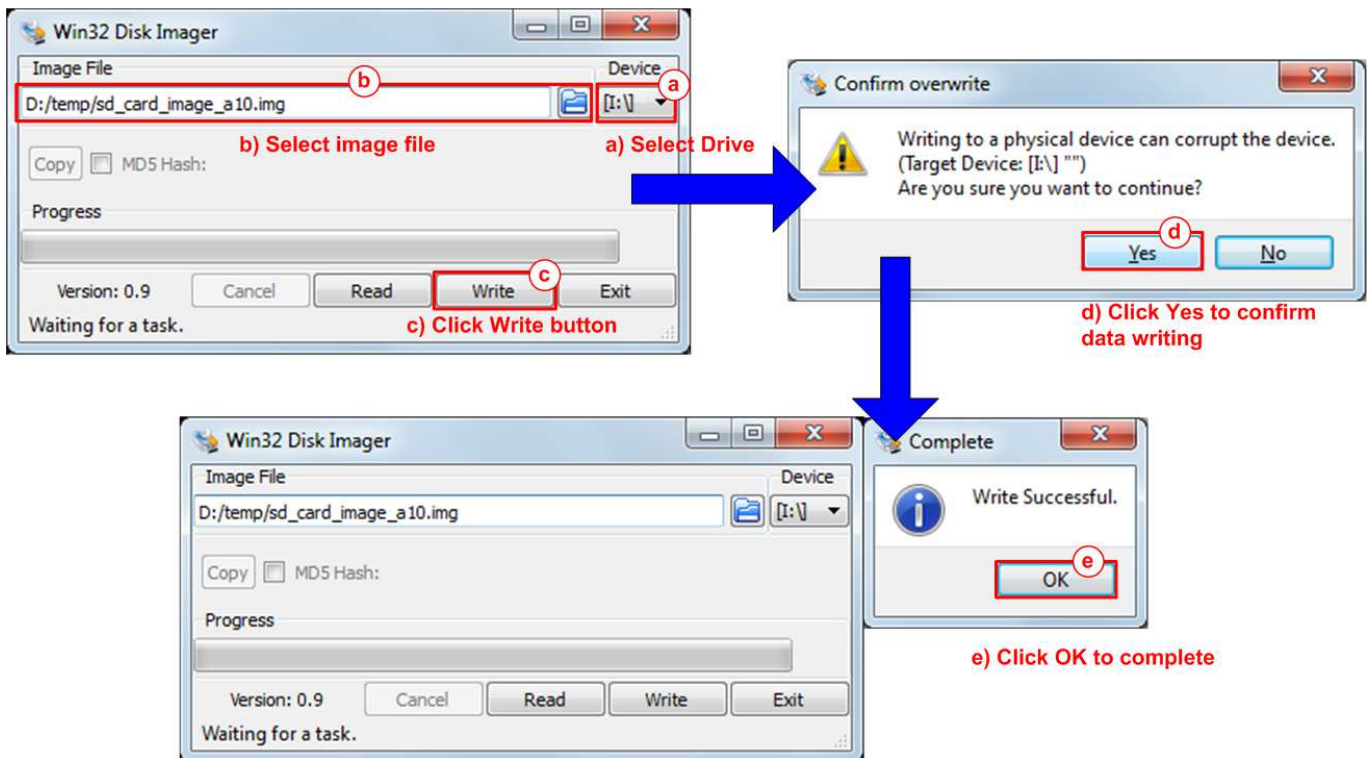

Figure 2-1 Write demo image file to microSD Card
- 4) Copy “sd_card_image_a10.img” to microSD by using Win32DiskImage, as shown in Figure 2-1.